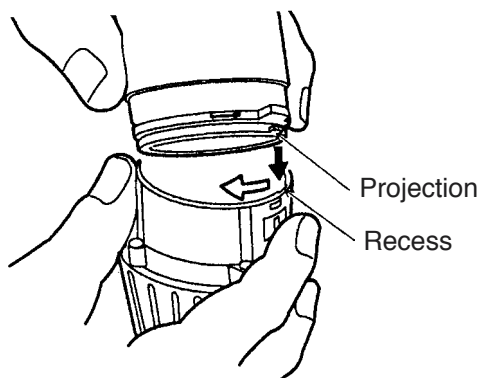

Fig. 17
(g) Install the assembly reassembled in step (1) and the assembly reassembled in step (f) together. (See Fig. 17.)